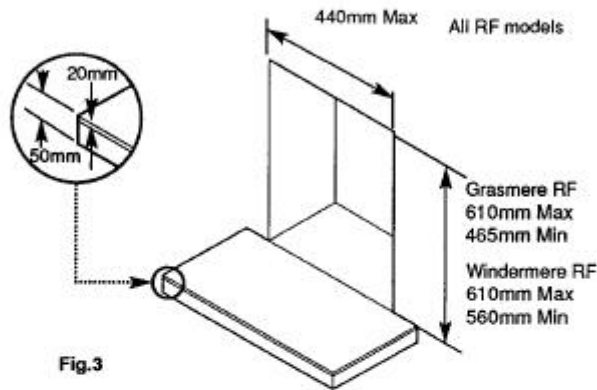

Fig.3
2. A non-combustible hearth must also be provided in front of the fireplace opening. This must be a minimum of 20mm thick, the top surface of the hearth should be a minimum of 50mm above floor level (Fig. 3).